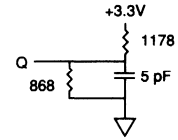

Fig. 2 OUTPUT LOAD EQUIVALENT
6. t_{HZCE} and t_{HZWE} are specified with CL = 5pF as in Fig. 2. Transition is measured ± 500mV from steady state voltage.